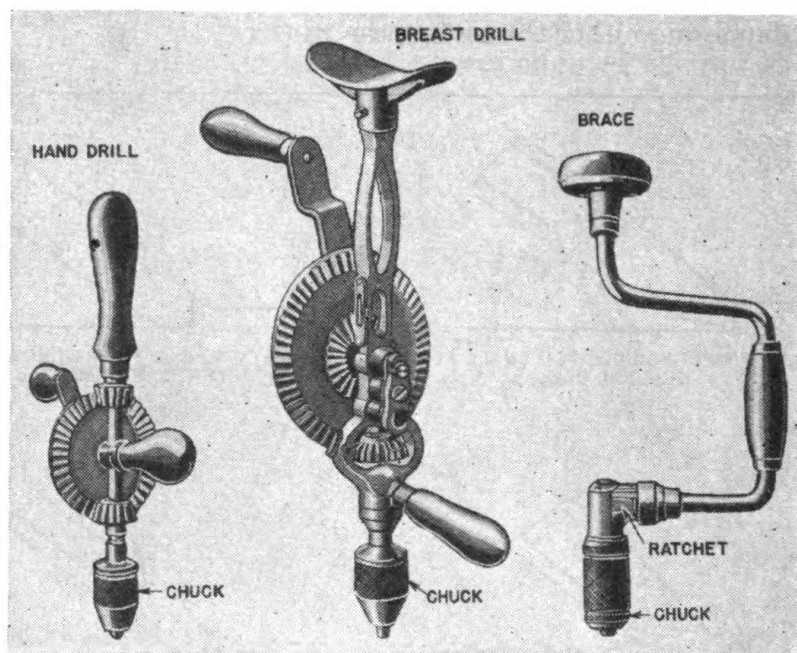

FIGURE 38.—Hand drilling tools.
(1) When chipping, a chipping guard (a piece of canvas about 2 feet square attached to two wooden pedestals) should be placed in front of the work to guard against flying metal chips.
(2) Always wear goggles.
(3) Keep the hammer and the blunt end of the chisel clean and free of grease or oil to prevent the hammer from slipping and bruising the hand.
(4) If the work is held in a vise, the jaws should have guards made of soft material such as copper or brass to protect the finish on the work. It is advisable to put a block under the work so it cannot slip out of the vise. Always chip toward the solid jaw of the vise; never chip toward the movable jaw. Where possible, avoid chipping parallel with the jaws.
11. Drills and drilling.—*a. General.*—The motor vehicle mechanic must often drill holes in work which cannot be placed on the table of a drill press, or when no such press is available, so it becomes necessary to use a portable electric drill or to drill by hand. The common hand tools for holding and turning drills are the hand drill, breast drill, and brace, shown in figure 38. Holes up to $\frac{1}{4}$ inch in diameter can be drilled in metal by hand effectively. The actual cutting of the hole is done by a twist drill, which when properly ground
(1) *Brace*.—In rotating a twist drill by hand with a brace (fig. 38), the following procedure will give satisfactory results: